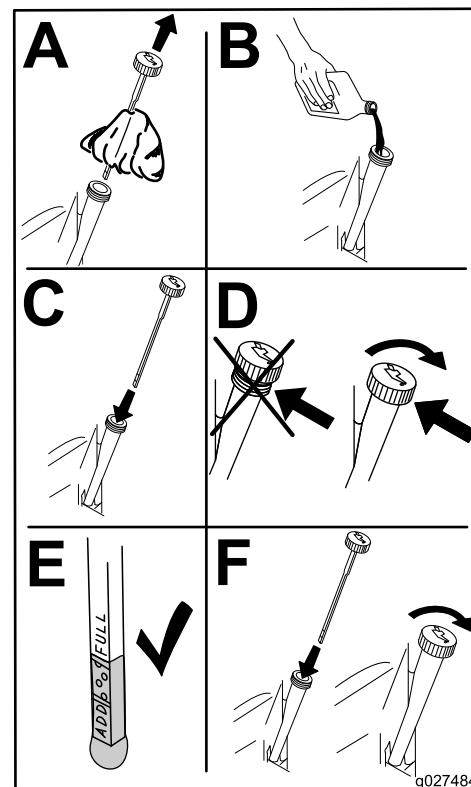

Figure 34
- Slowly pour approximately 80% of the specified amount of oil into the fill hole (Figure 34).
- Check the oil level; refer to Figure 34.